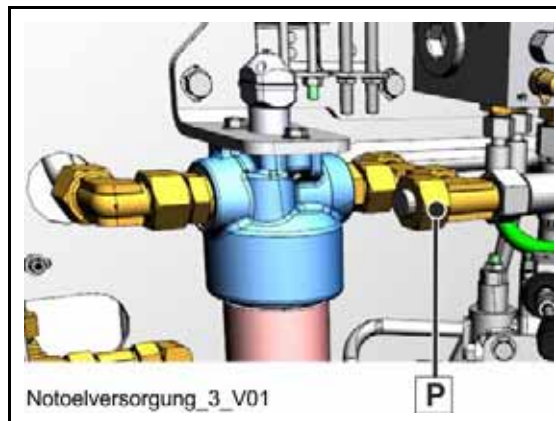

Fig. 227 Emergency oil supply P-connection - S 43 SX III (in detail)
To connect the emergency unit to the delivery connection (P), the lock (P) on the pressure filter (Fig. 227) must be removed.